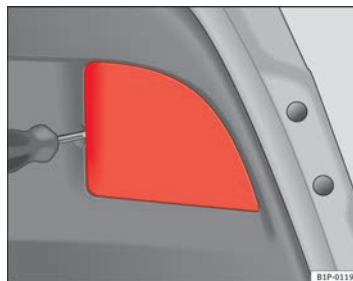

Fig. 171 Lights on the tailgate
- Use a screwdriver to remove the cover ⇒ fig. 171.